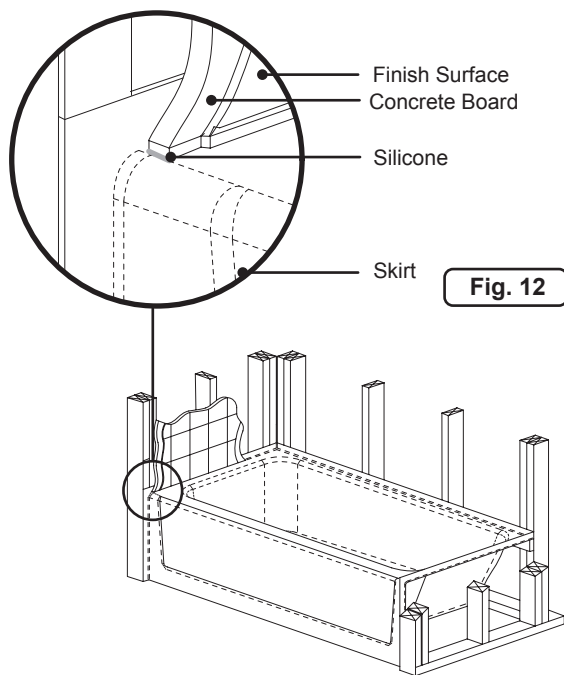

Fig. 12
8. When other than cementitious backer board is to be used, furring strips as thick as nailing flanges are recommended for installation on studs above the installed unit to assure walls will be flush. 100% silicone sealant with mildew resistant properties should be applied between the backer board and horizontal surface of unit (Figure 12). Then finished wall materials can be applied.
10. Caulk around the perimeter of bathtub to seal the space between the rim and the finished deck (Figure 12).